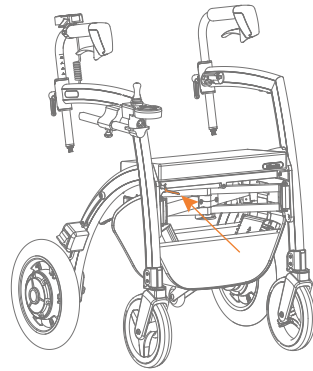
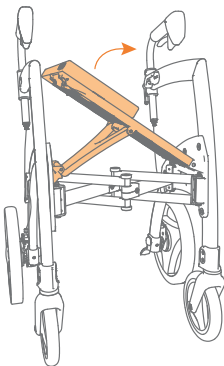

Figure 14: Push the red handle while lifting the seat.
Figure 15: Lift the seat partially.
- d. Push the red release handle under the seat (**Figure 14**) and lift the seat partially (**Figure 15**).